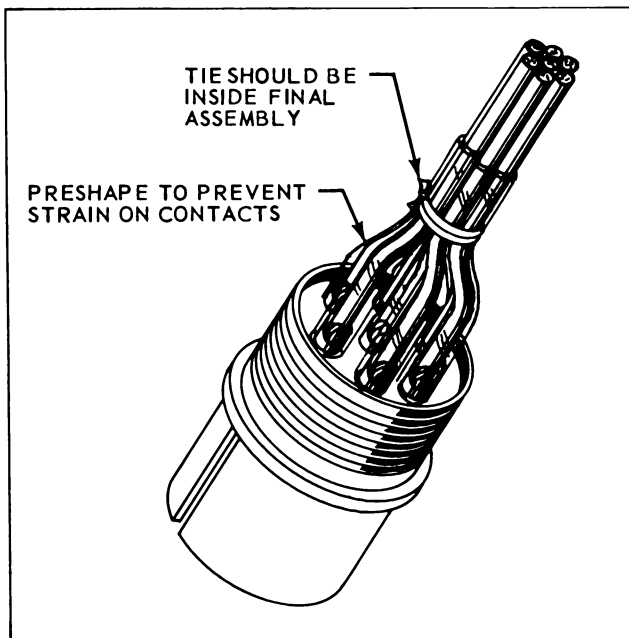

Figure 3-35. Tying Sleeves and Preshaping Wires
3-41. **PRESHAPING WIRES.** Preshape large diameter wires (#14 and larger) before soldering to contacts. This will avoid strain on soldered connection when AN-3057, cable clamp adapter, is installed. See Figure 3-35.
k. Tie sleeves to wires using nylon braid as shown in Figure 3-35.